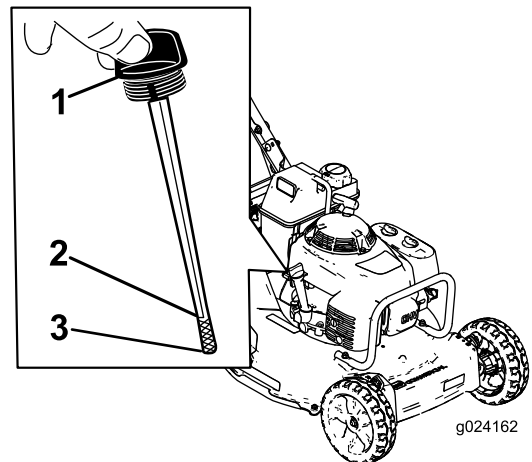

Figure 8
Before each use, ensure that the oil level is between the lower-limit and upper-limit marks on the dipstick (Figure 8).
2. Clean around the dipstick (Figure 8).